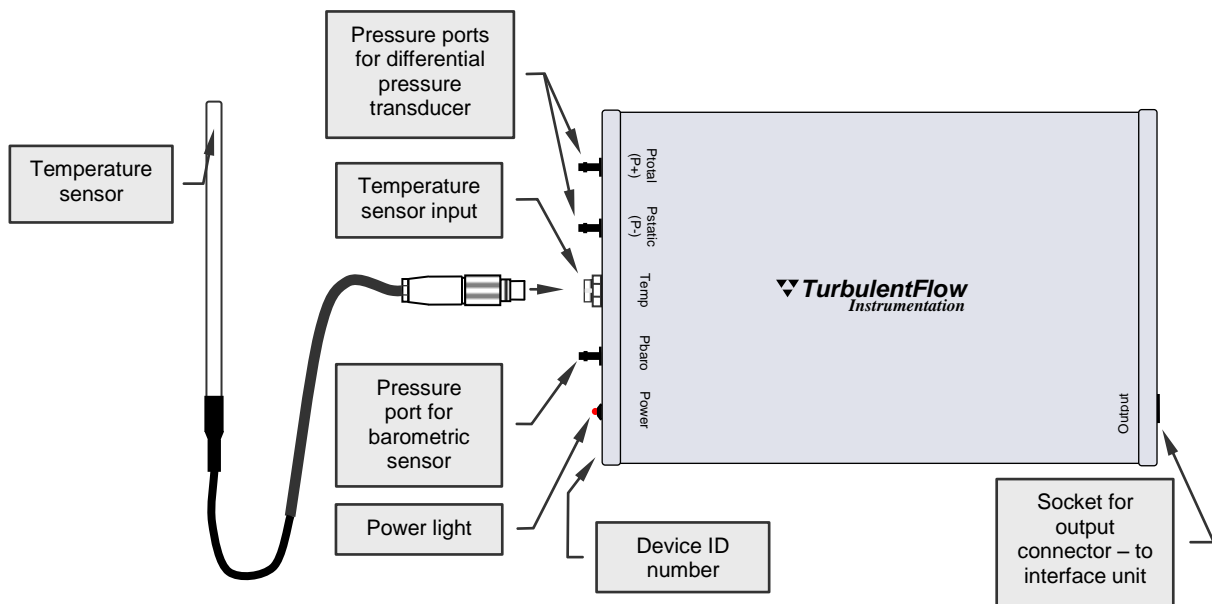

Figure 1: Reference Sensor Module main features
The Reference Sensor Module is a box containing reference sensors: a differential pressure transducer; barometric pressure sensor; and a temperature sensor; and other custom sensors as ordered. The RSM is supplied fully calibrated and ready to use. Figure 1 shows a diagram of the RSM indicating its general features.
- i** The Device ID number is labelled on the RSM (see Figure 1).